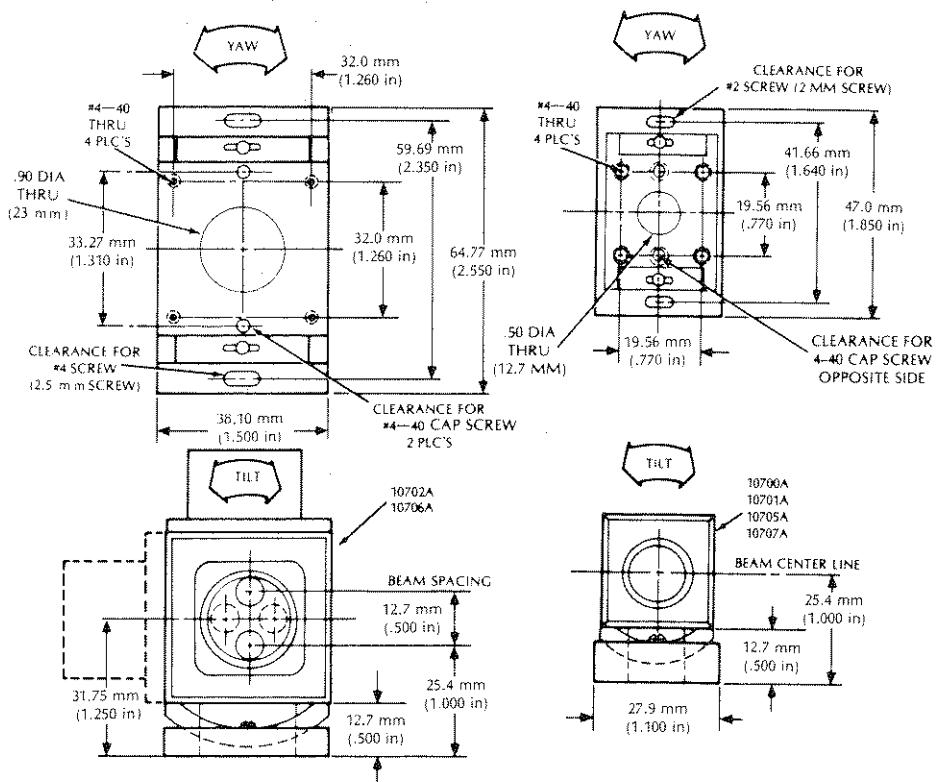

Figure 2-24. 10710A and 10711A Adjustable Mounts Specifications
- 10710A and 10711A Adjustable Mounts Specifications, see *Figure 2-24*.